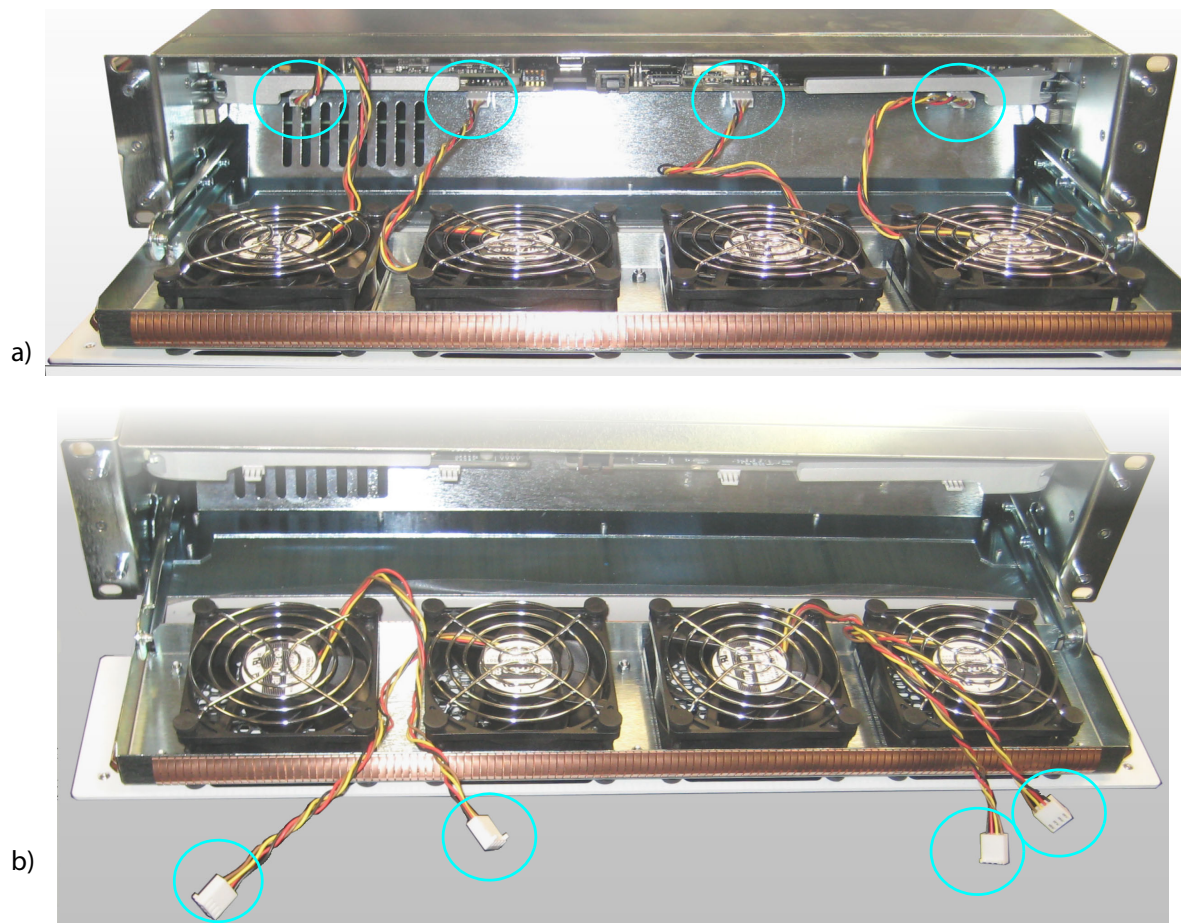

Fig. 11-7: Door-Fan Supply Wires:
- 3 Disconnect the four door-fan supply wires from the front of the MV-825-RTR main front card. See Figure 11-7.
- 6 Reconnect the four door-fan supply wires to the headers on the main front card. Check they are pushed onto the main front card headers fully and securely. See Figure 11-7.